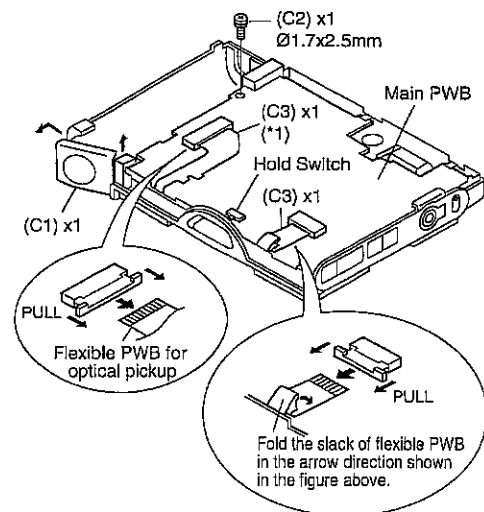

Figure 7-3
2. Bend the flexible PWB toward the main PWB side so that it does not protrude at the cabinet side. (See Figure 7-3.)